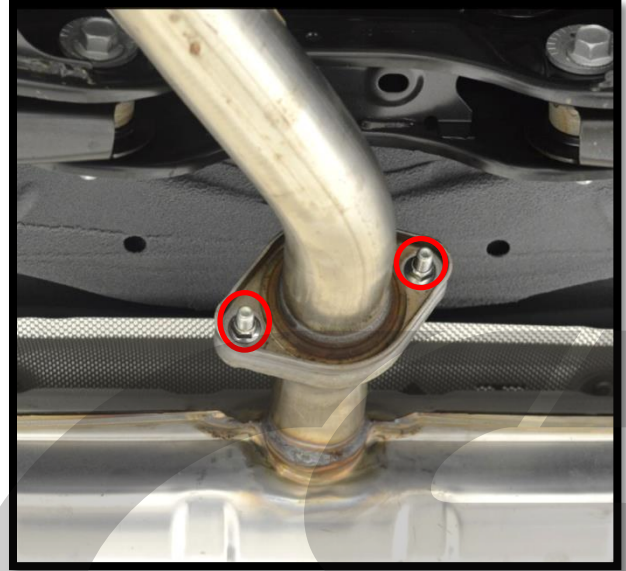

Figure 2d
- d) Using a 14mm socket and extension if desired, remove the two nuts holding the factory axleback to the mid pipe (bolts circled in red in Figure 2d).